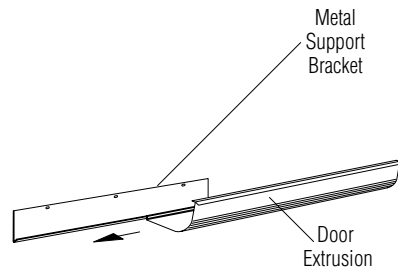

Figure 7
15. Slide the plastic door extrusion onto metal support bracket (Figure 7).